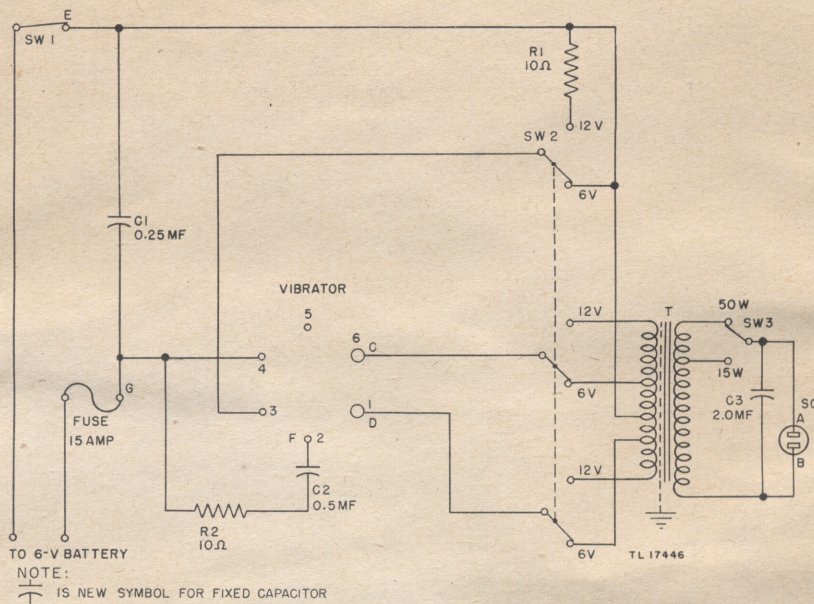

Figure 10. Vibrator Pack PP-68/U, test circuit.
α. Voltage Checks. Connect the vibrator pack to a 6-volt storage battery by securing the battery clips to the battery terminals. Disconnect the test equipment a-c input plug from the vibrator pack output receptacle SO. Throw input switch SW2 to the 6-volt position, output switch SW3 to the 50-watt position, and the ON-OFF switch to ON. Refer to figure 10. The following point-to-point voltages should be measured:
b. Resistance Checks. Throw the ON-OFF switch to OFF. Disconnect the battery clips from the storage battery. Use a low-resistance ohmmeter. Refer to figure 10. The following approximate point-to-point readings should be obtained: